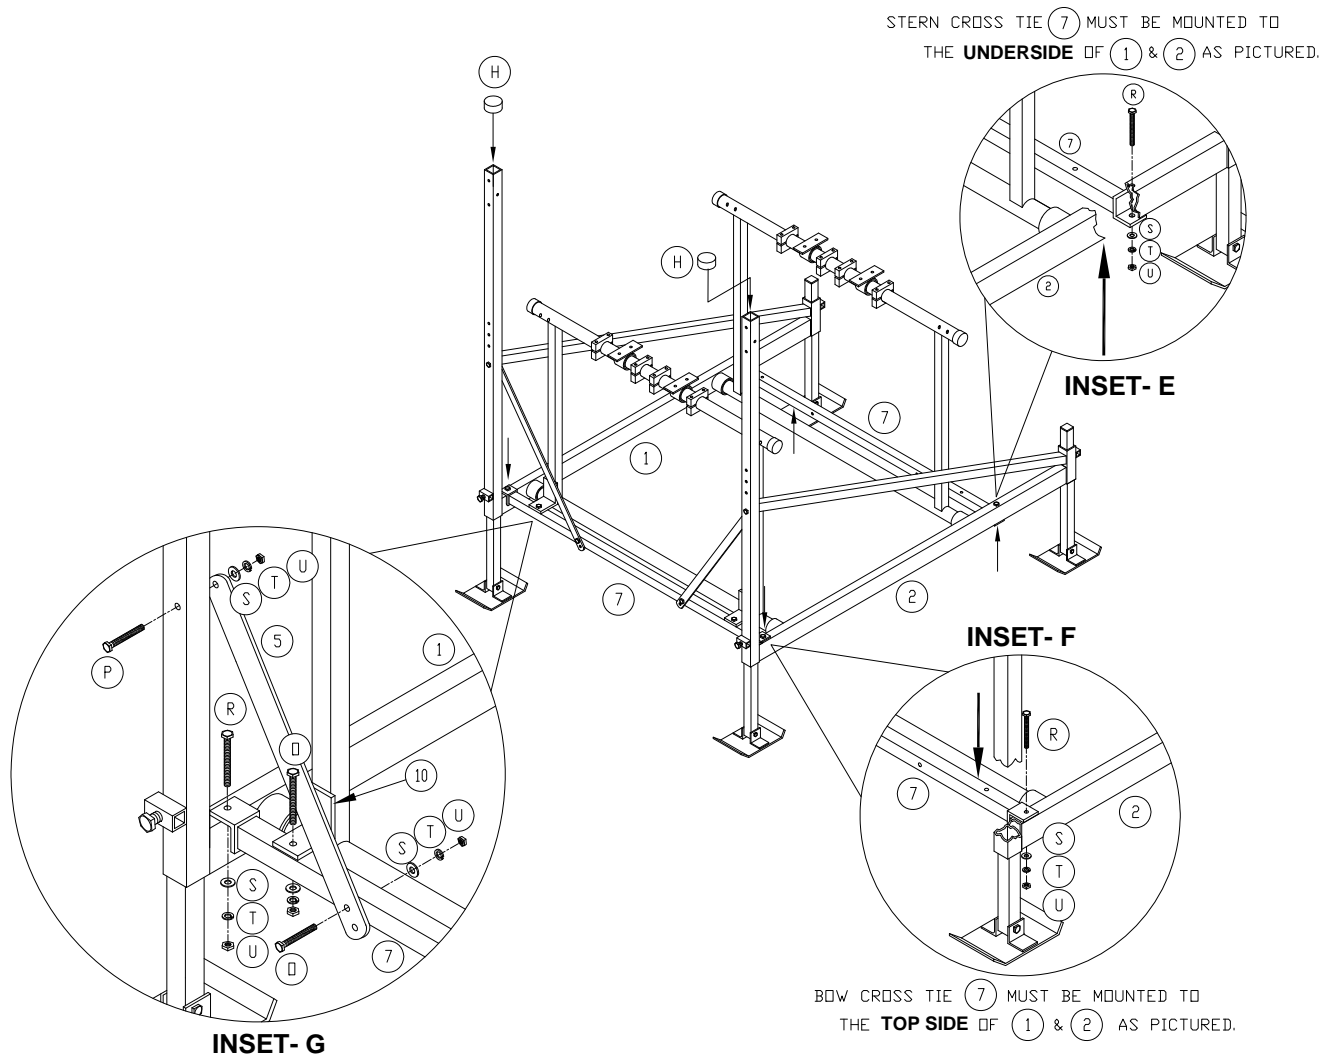

Figure 3-2.
1. Refer to **Figure 3-2**. Attach stern end cross tie (7) to **underside** of side assemblies as shown in **Inset E**.
5. Refer to **Figure 3-2**. Form the round soft plastic cap over the top of each square vertical leg of the side assemblies.